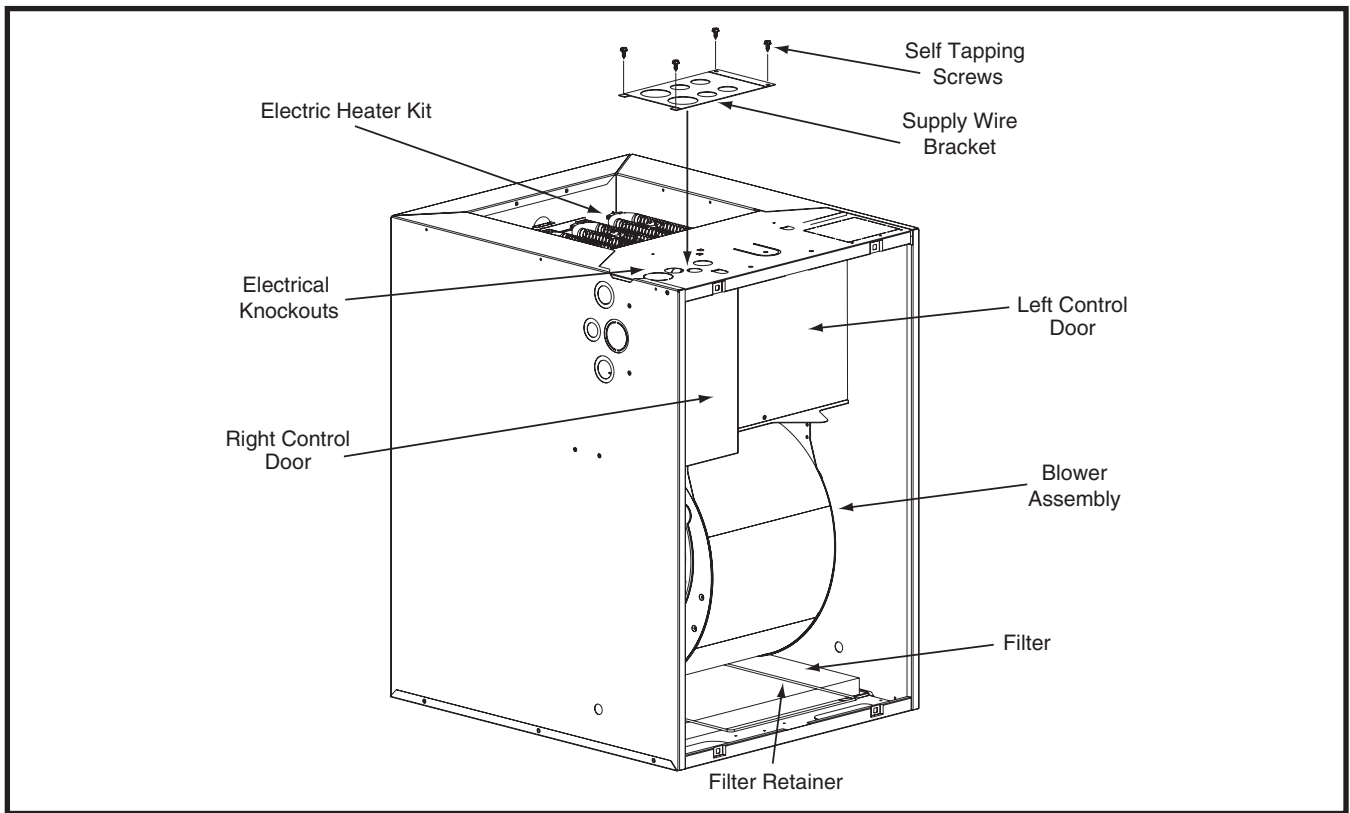

Figure 21. E7 Supply Wire Bracket
3. For Supply Service Wire installations through the top or bottom of the appliance. Add bracket for metal thickness increase for supply wire connections. See Figure 21.